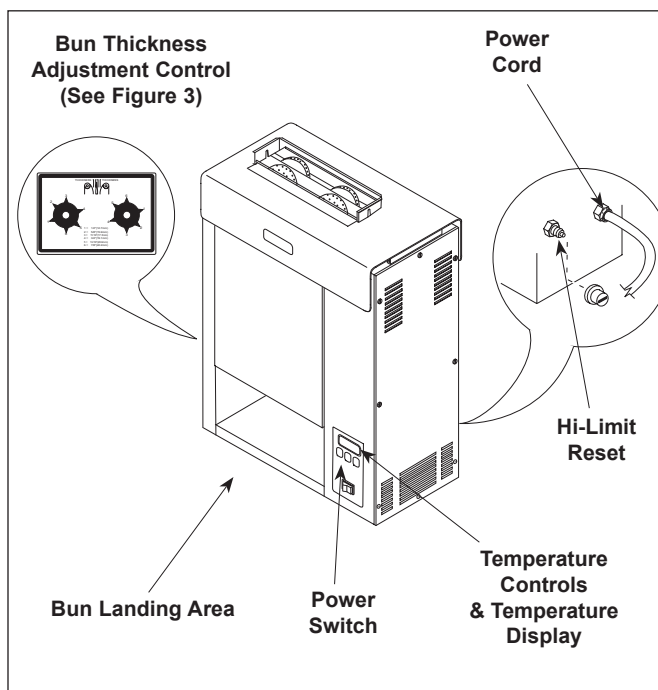

Figure 2. VCT-2000 Toaster
NOTICE: The temperature display (Figure 2) will flash “LO” until the toaster reaches its preset operating temperature. When the toaster approaches the preset temperature of 585°F (307°C), “USE” appears in the temperature display and the unit is ready to toast buns. If “USE” does not appear in the window after approximately 30 minutes, contact your Authorized Service Agency.
3. Drop Crowns and Heels into the slot (Figure 2).
4. Toasted buns will drop into the Bun Landing Area (Figure 2) in approximately 10 seconds.
A Hi-Limit Control turns off electrical power to the heater and control circuits if the platen overheats. To reset the control, allow 10-15 minutes for the unit to cool, then locate the Reset Button at the rear of the unit. Remove the black protective cap, press the Reset Button, and reinstall the protective cap (Figure 2).